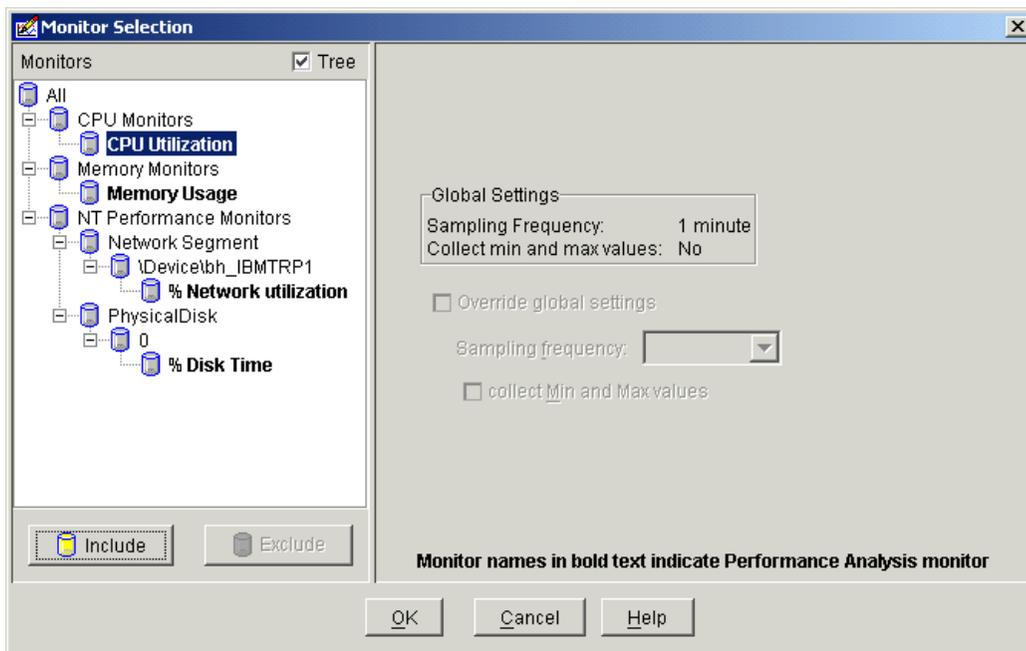

Figure 137. Monitor Selection
- Choose **Select individual monitors** if you want to select a *subset* of the enabled monitors on each client. Clicking the **Monitor Selection** button produces a window similar to Figure 137: